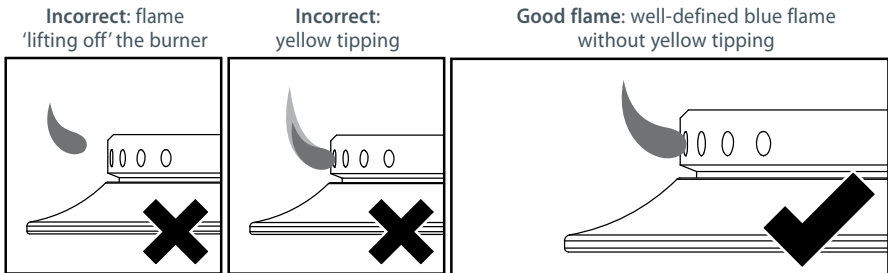

Fig.4 Incorrect and good flame patterns
- 2 Check for a well-defined blue flame without any yellow tipping. See Fig.4.
- 15 Check that all burners have a good flame (Fig.4).
- The brass wok burner in the centre of CG905DWAC models may require progressive venturi adjustment (Fig. 6) until a good flame (Fig.4) is achieved: